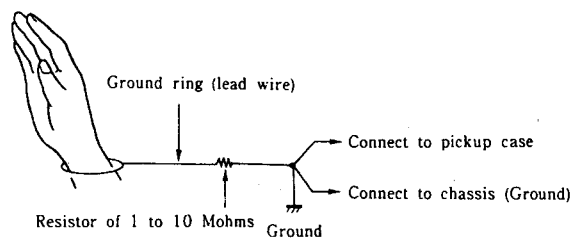

Fig. 13
- (2) Handling the unit mechanism (Fig. 13)
- When handling the pickup mechanism and the unit mechanism, use a ground ring such as the one illustrated in Fig. 13. (A ground ring can be constructed using ordinary lead wire.)